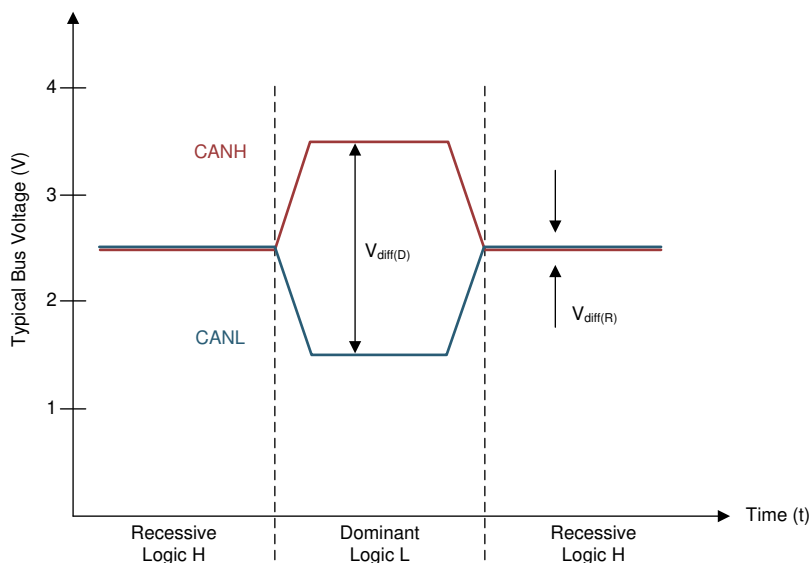
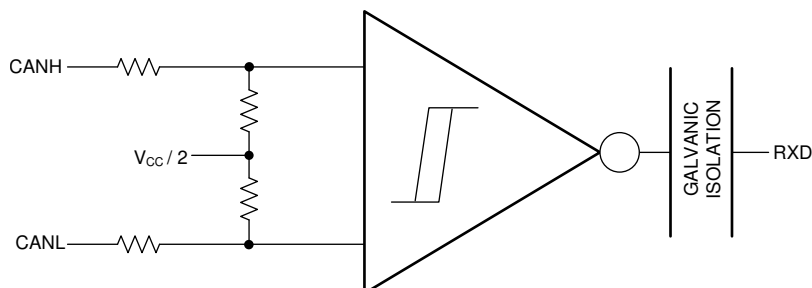

Figure 8-1. Bus States (Physical Bit Representation)
Figure 8-2. Simplified Recessive Common Mode Bias and Receiver
The CAN bus has two states during operation: *dominant* and *recessive*. A dominant bus state, equivalent to logic low, is when the bus is driven differentially by a driver. A recessive bus state is when the bus is biased to a common mode of $V_{CC} / 2$ through the high-resistance internal input resistors of the receiver, equivalent to a logic high. The host microprocessor of the CAN node uses the TXD pin to drive the bus and receives data from the bus on the RXD pin. See Figure 8-1 and Figure 8-2.
- (1) H = high level, L = low level, Z = common mode (recessive) bias to $V_{CC} / 2$. See Figure 8-1 and Figure 8-2 for bus state and common mode bias information.